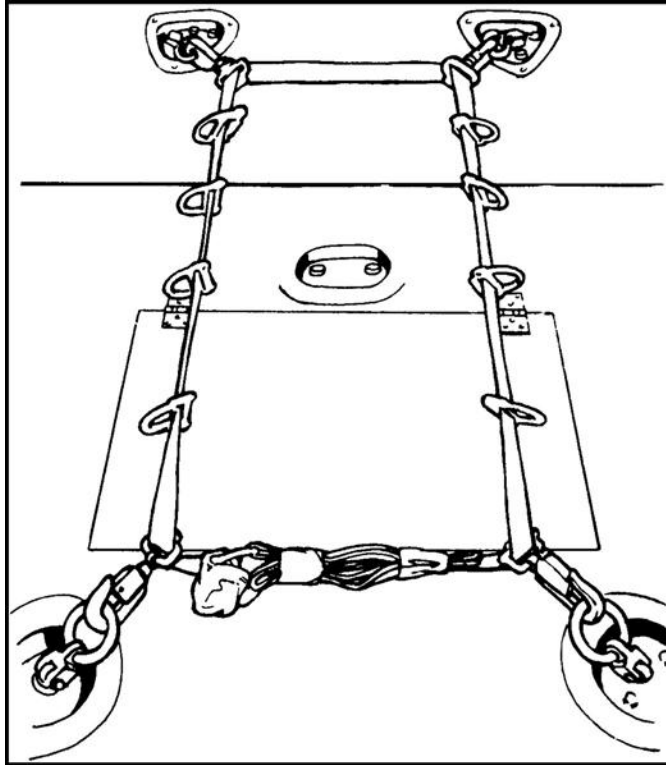

Figure 17-10. UH-60A modified anchor line secured to floor.
(1) Install four snap hooks with safety wires and eight D-rings with cotton buffers on the anchor web loop, with the snap hooks and D-rings facing out in the following order: one snap hook, four D-rings; two snap hooks, four D-rings; and one snap hook (Figure 17-10).
(2) Insert about 30 inches of the web loop running end into the quick-fit adapter to secure the loop.
(3) Center the anchor line system on the cargo floor with the quick-fit adapter to the rear. Attach the snap hooks to tie-down fittings 3B, 3C, 4B, and 4C. Insert the safety wires and tape the snap hooks.
(4) Center the quick-fit adapter between tie-down fittings 4B and 4C, and tighten the web loop by pulling on the loop running end. Secure the web loop running end with an overhand knot. Fold and tape excess webbing to the web loop.